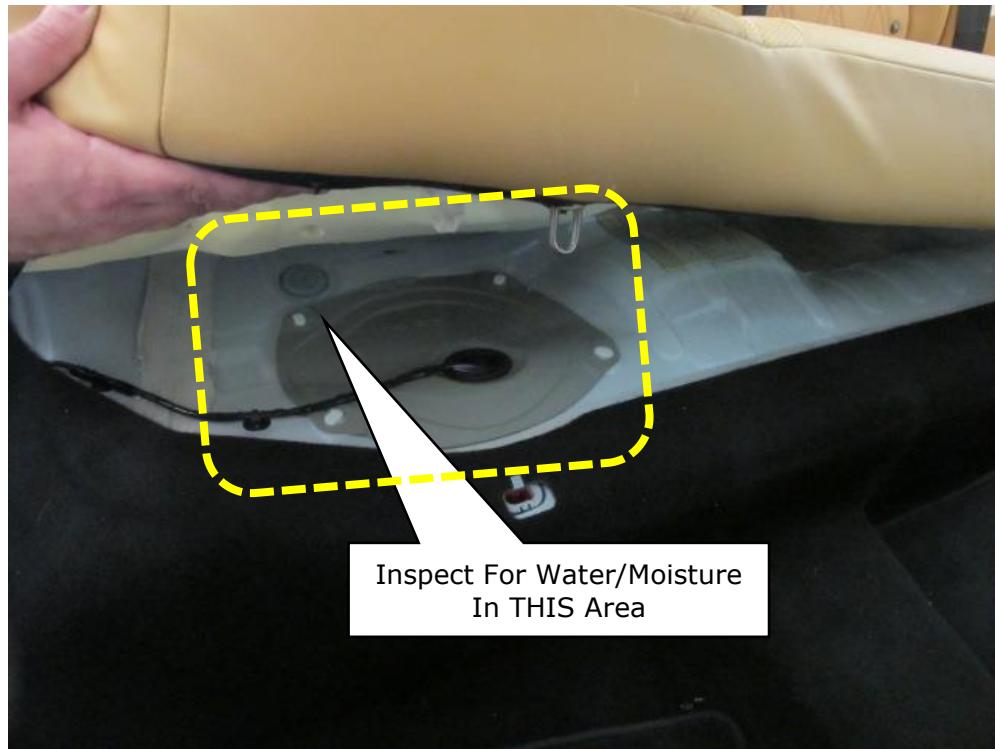

Figure 5
5. Inspect the right (passenger) rear floor under the rear seat cushion for water intrusion (puddled water) or moisture (Refer to Figure 5).